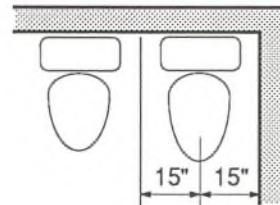

Fig. 8.14 Symbols for standard and elongated toilets showing space requirements.
1. To draw a toilet on the plan refer to Fig. 8.14. This drawing shows the toilet located close to the wall. If you are using a template, draw around the opening; otherwise trace from the drawing guides.
2. The minimum required distance from the center of the toilet to the nearest wall or cabinet is 15". The lines on each side of the toilet in Fig. 8.14 show the space requirements.